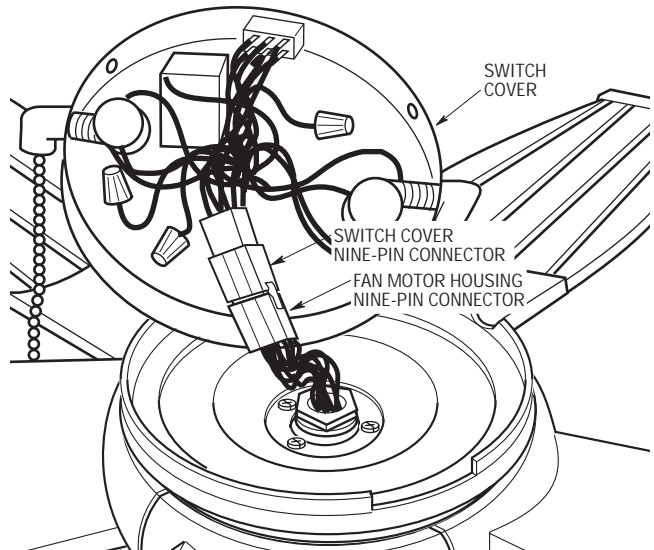

Figure 13
- 16. Connect the switch cover nine-pin connector to the fan motor housing nine-pin connector (Figure 13).